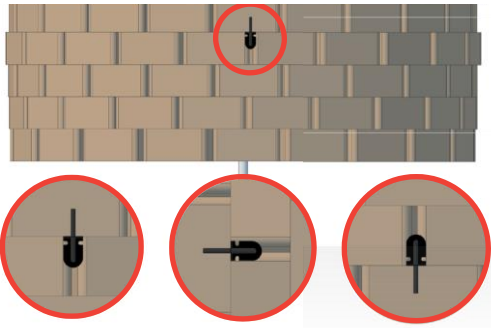

Figure 6.3 – Antenna placement
- Plot the hole locations that will be drilled to fasten the antenna bracket. See Figure 6.3.